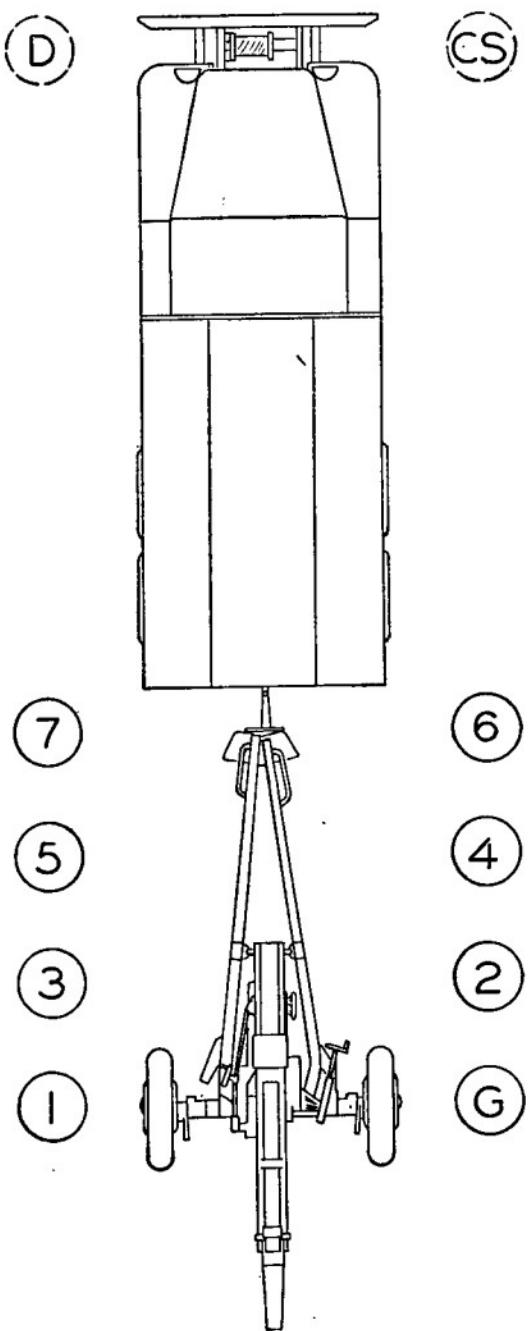
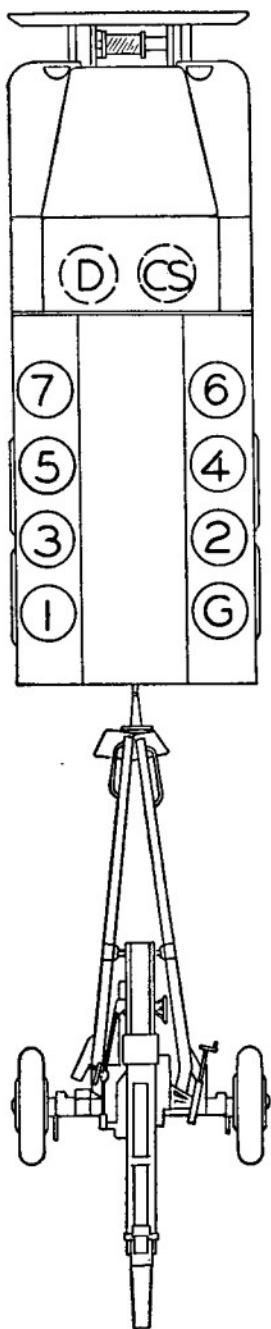

Figure 4. Posts of cannoneers, howitzer coupled.
Figure 5. Posts of cannoneers mounted in truck.
8. POSTS OF CANNONEERS. a. Pieces coupled. The cannoneers of the howitzer squad are posted as shown in figure 4. All are 2 feet outside the wheels and facing to the front. Higher-numbered cannoneers, if present, are posted as prescribed by the chief of section.
(1) *When a truck is used as prime mover.* At the first command, cannoneers move in double time to positions shown in figure 4. At the second command, each cannoneer at the right rear of the truck will, in turn, place his right foot on the right rear bumper and, grasping the step on the tail gate with his right hand, will swing his left leg over the gate into the body of the truck. Each cannoneer on the left will place his left foot on the left rear bumper and, grasping the step with his left hand, will swing his right leg over the gate into the body of the truck. The cannoneers take seats as indicated in figure 5. If the chief of section and driver are to be included in the movement, the commands are: 1. PREPARE TO MOUNT, 2. MOUNT. At the first command, the driver and chief of section take position on the left and right of the rear of the truck, respectively. After the last cannoneer has mounted, the driver fastens the safety strap; the chief of section and driver mount, take seats, and close their doors.
b. All gunners working together under the direction of the chief of section load the tools, accessories, and unexpended ammunition. Nos. 2, 3, 6, and 7 hasten to the trail handles, even-numbered gunners on the left, odd-numbered on the right. Nos. 4 and 5 hasten to the front of the piece and release the brakes. The prime mover, upon signal from the chief of section, is maneuvered backward until the pintle is almost over the lunette. Nos. 2, 3, 6, and 7 then raise the trails and, after No. 3 has placed the drawbar in traveling position, place the lunette over the pintle, No. 2 latching the pintle. Nos. 4 and 5 assist by placing their weight on the tube. All gunners take their posts (fig. 4).